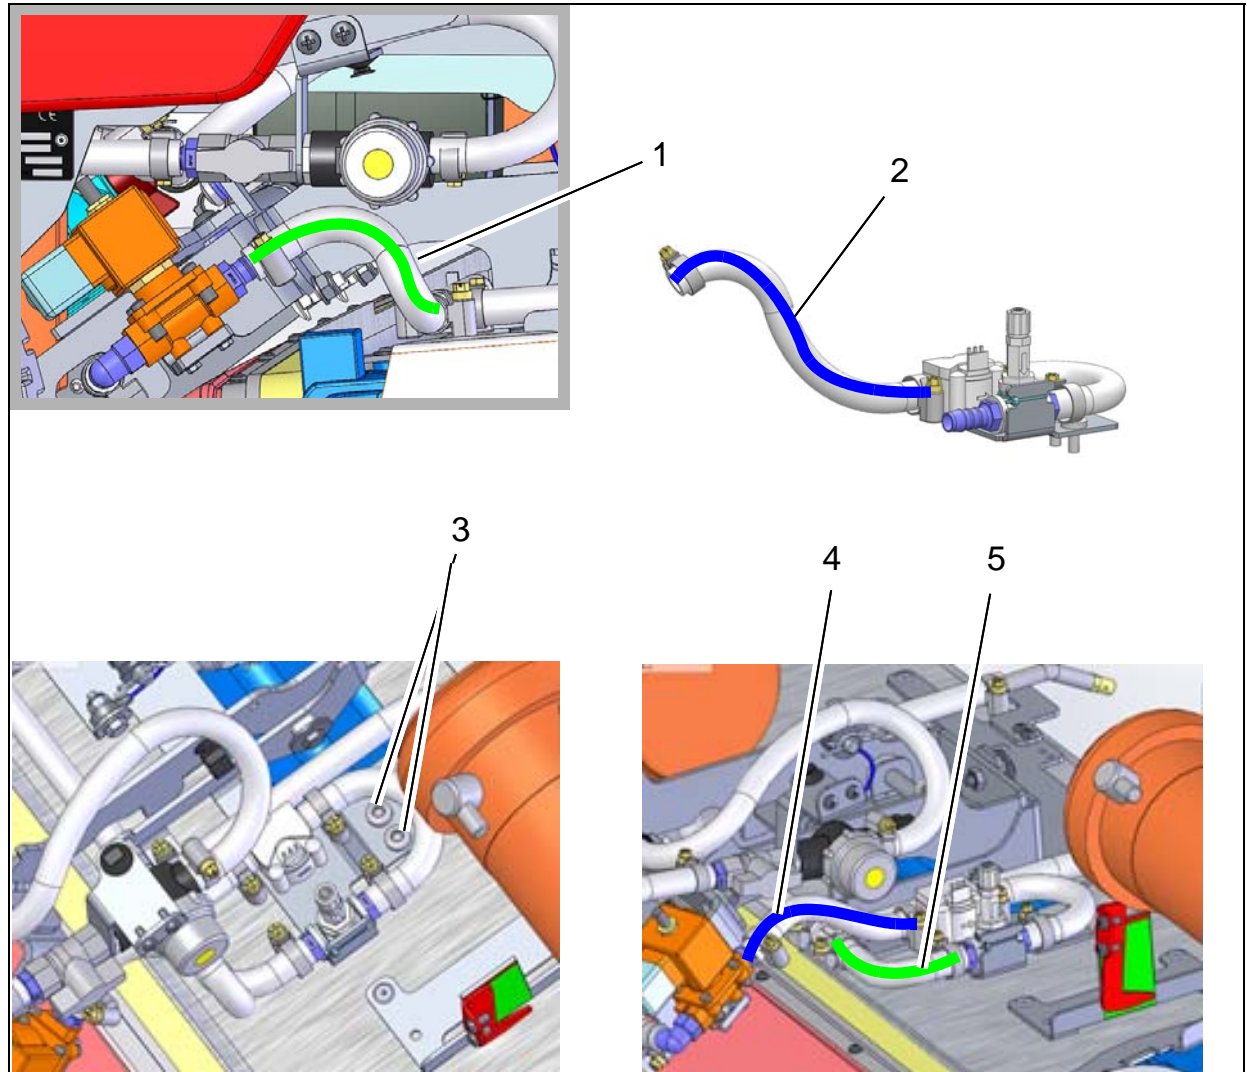

Fig. 3
Remove hose from solenoid valve (Fig. 3/1).
Before assembling the assembly unit, the hose must be shortened from 230 mm to 170 mm (Fig. 3/2).
1. Secure assembly unit to the roller brush unit with the two M8x16 flanged button head bolts (Fig. 3/3).
2. Connect the hose of the flow sensor to the solenoid valve (Fig. 3/4).
3. Secure hose removed from solenoid valve to the screw-in nozzle of the non-return valve (Fig. 3/5).